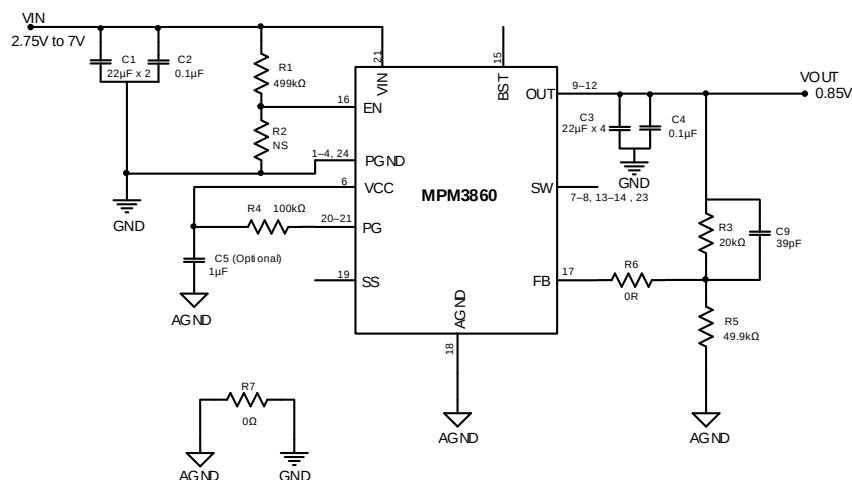

Figure 7: Typical Application Circuit with 0.85V Output
- 7) The recommended layout is based on Figure 7 (see the Typical Application Circuits section on page 18).